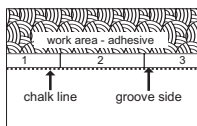

Figure 10b
- Be sure not to spread adhesive too far ahead of your work area (Figure 10b).